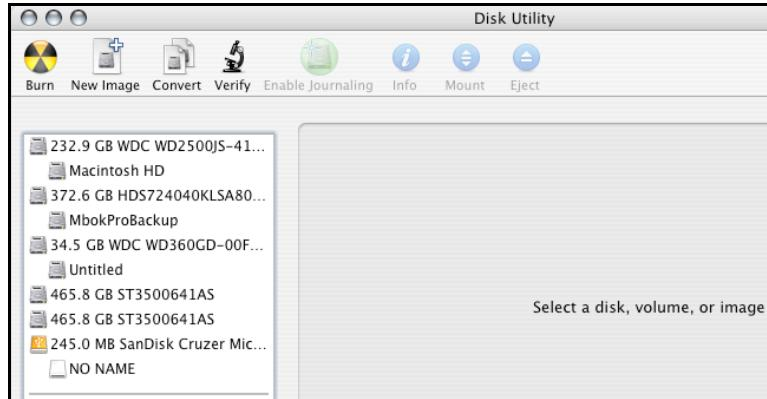

Figure 6: Example hard drive listing
- Review the list of hard disks shown in *Disk Utility* (see Figure 6). Drives that have been formatted should have a volume name below their listing. New, unformatted disks typically have no volume name. Carefully select the hard disk you wish to format.